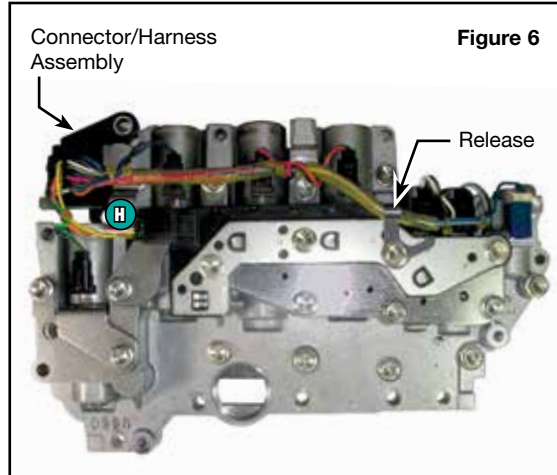

Figure 6
- Disconnect case connector from all seven solenoids. Remove case connector assembly retaining bolt, bracket and connector/harness assembly (Figure 6).
- Reinstall case connector assembly retaining bracket, bolt and connector/harness assembly (Figure 6). Attach wire harness from bracket and connect to all seven solenoids.